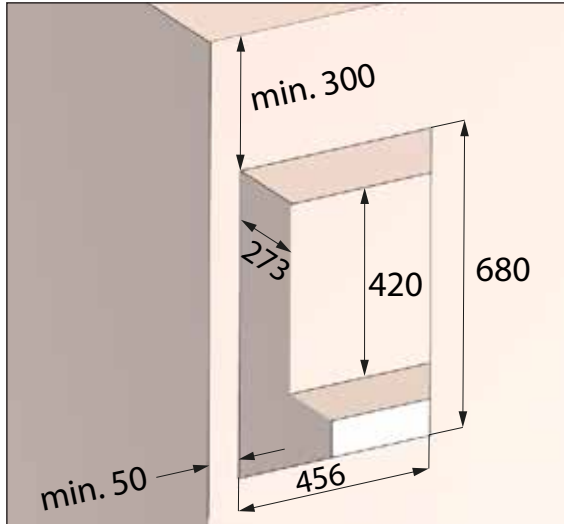

Fig. 9: Wall breakthrough for installation kit **without** filler piece, dimensions in millimetres
- Wall breakthrough with recess (see Fig. 9) for installation kit **without** filler piece M-WRG-II M/Fü
- Wall breakthrough with recess (see Fig. 9 on page 20) for installation kit **without** filler piece M-WRG-II M/Fü